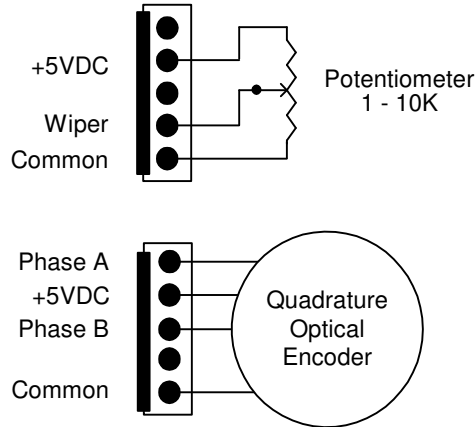

Figure 3 - Position Translator Connections
- Update the notes to Figure 3